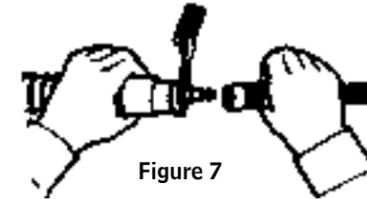

Figure 7
- 2) With air flowing, connect the hood assembly to the air supply hose (see Figure 7). Pull back the sleeve on the hose coupler and insert the quick-disconnect nipple on the flow control. Once the fitting is secured, release the coupling sleeve to lock the fitting together. Pull on the coupling to make sure they are attached securely.